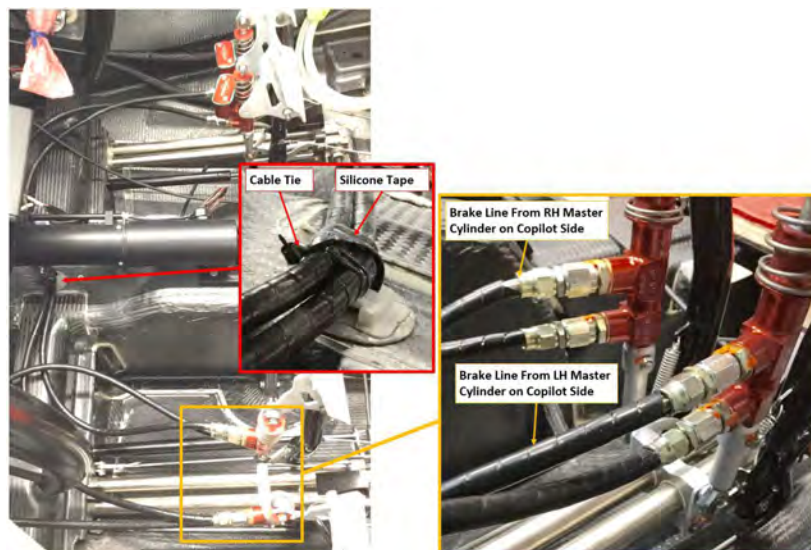

FIGURE 14-8
6. Route the line as shown in Figure 14-8.